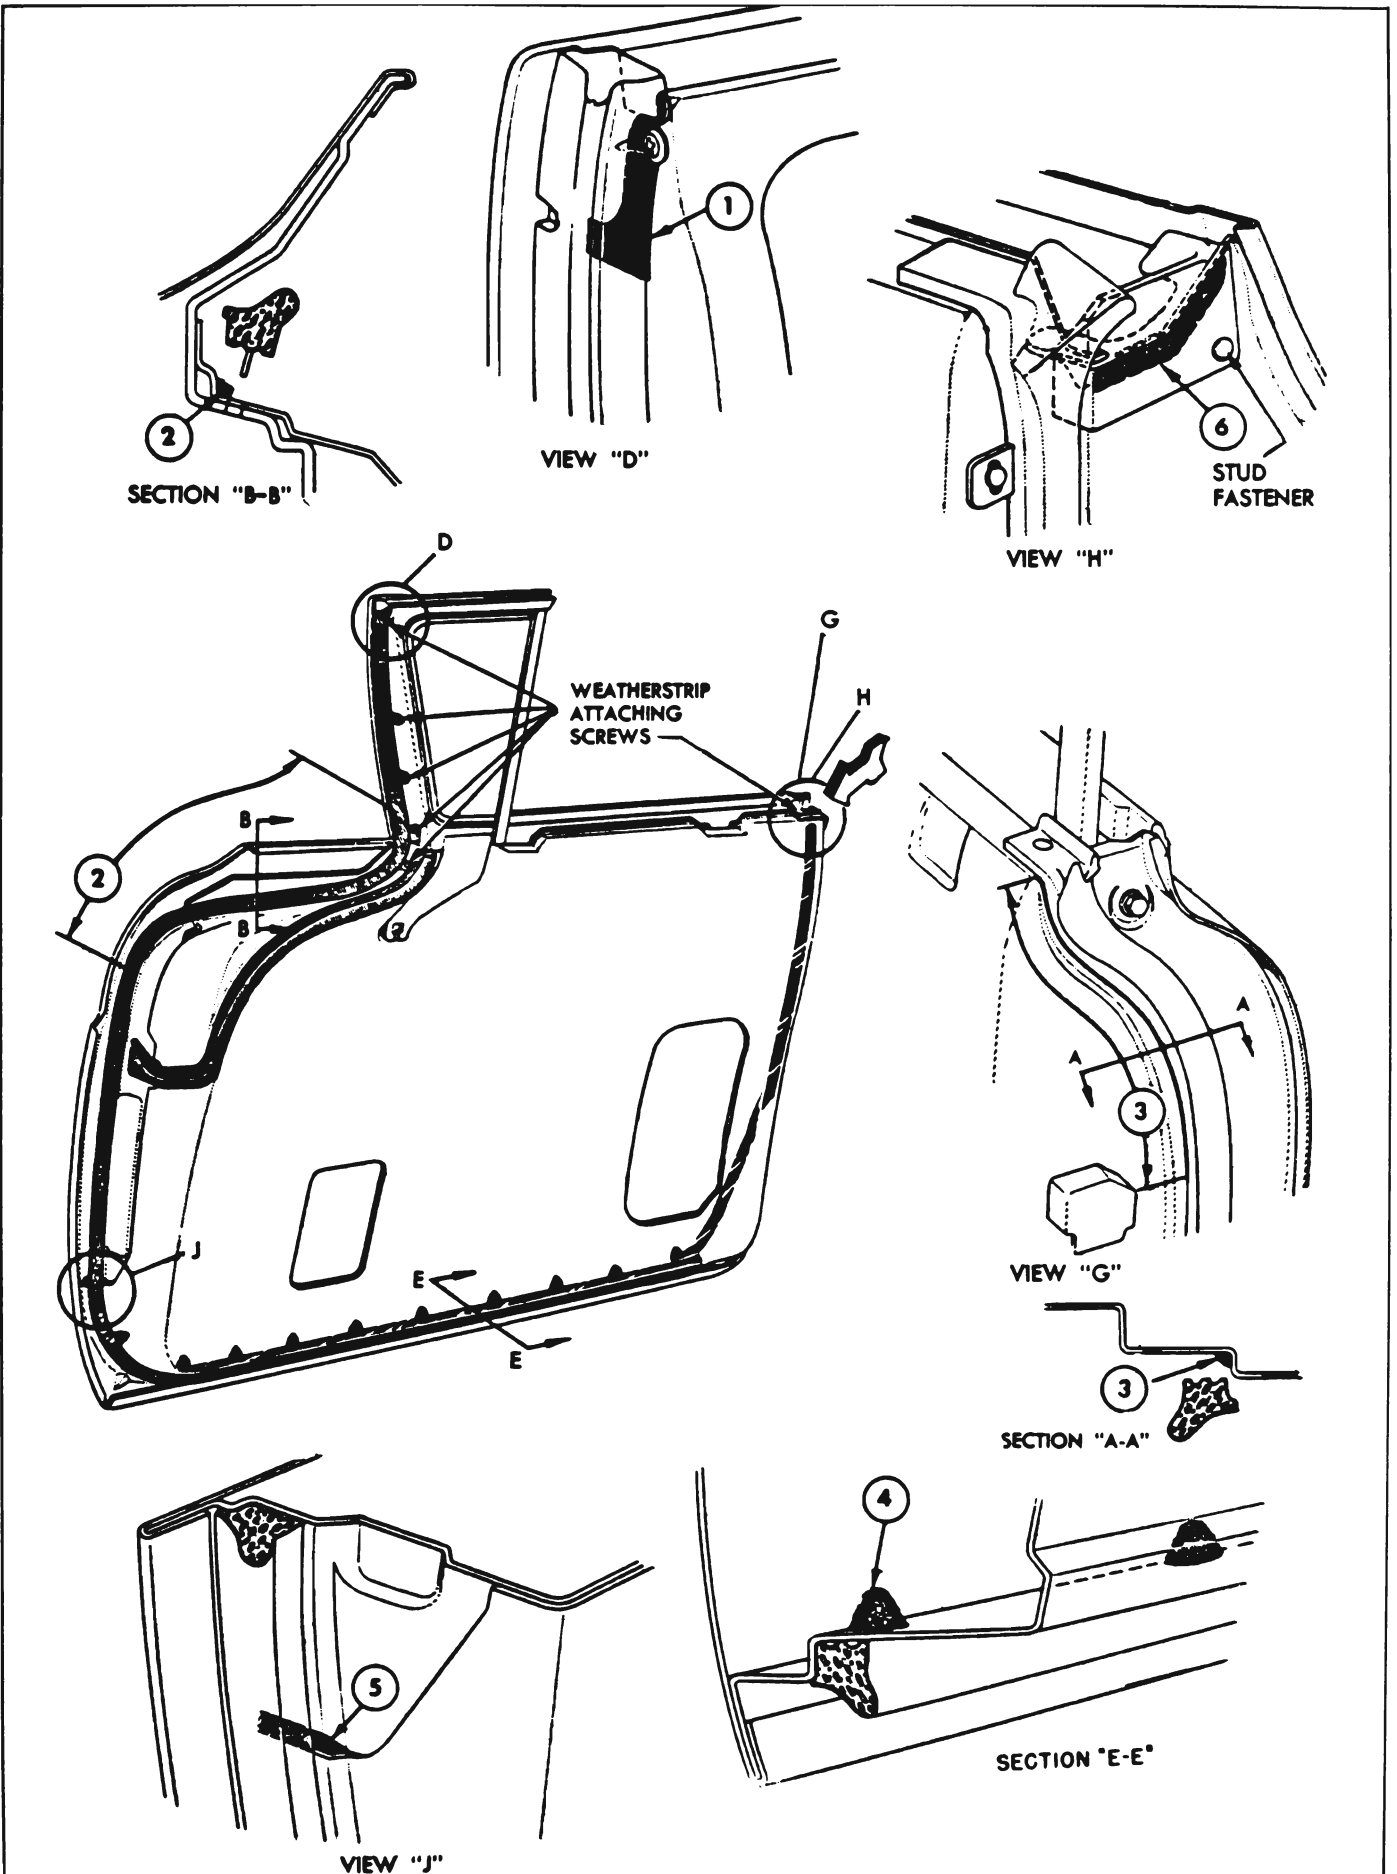

Figure 13-192—Front Door Weatherstrip
1. Remove front door trim assembly. Remove weatherstrip attaching screws at locations, shown in Figures 13-192 and 13-193.
2. Using a weatherstrip clip inserting tool or other suitable tool carefully position tip of tool under weatherstrip at each clip location and snap clip out of hole. At cemented areas, shown in Figures 13-192 and 13-193 carefully break cement bond.
4. Install weatherstrip attaching screws at locations, shown in Figures 13-192 and 13-193.
5. Working through large access apply medium-bodied sealer over and around weatherstrip attaching clips, as indicated at "4" in SECTION "E-E" in Figures 13-192 and 13-193. Seal all clips along door bottom and clips at door pillars, as indicated in illustrations.
6. On front doors, after installation of weatherstrip apply weatherstrip cement, as shown at "5" in VIEW "D", Figure 13-192, to fill the void at the joint of front door inner panel and door hinge pillar inner panel.
1. With a flat bladed tool carefully remove stud fastener, shown in VIEW "H", Figure 13-192.